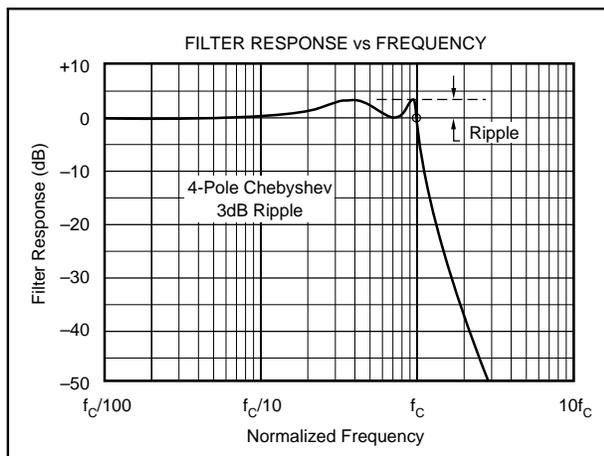
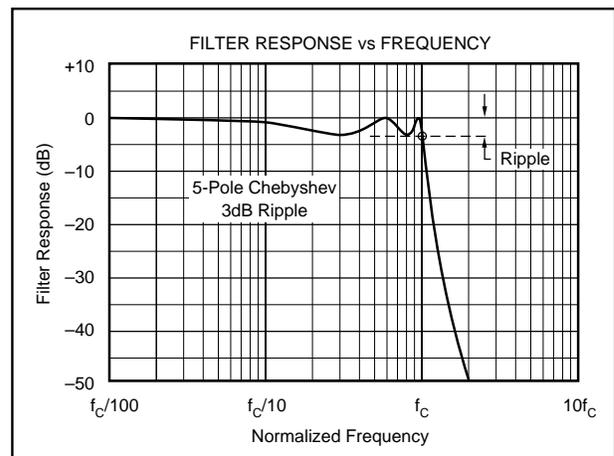

FIGURE 1A. Response vs Frequency of Even-Order (4-pole),  $3\text{dB}$  Ripple Chebyshev Filter Showing Cutoff at  $0\text{dB}$ .
FIGURE 1B. Response vs Frequency of Odd-Order (5-pole),  $3\text{dB}$  Ripple Chebyshev Filter Showing Cutoff at  $-3\text{dB}$ .
**Chebyshev** (equal ripple magnitude). (Also transliterated Tschebychev, Tschebyscheff or Tchevysheff.) This filter type has steeper attenuation above the cutoff frequency than Butterworth. This advantage comes at the penalty of amplitude variation (ripple) in the pass-band. Unlike Butterworth and Bessel responses, which have  $3\text{dB}$  attenuation at the cutoff frequency, Chebyshev cutoff frequency is defined as the frequency at which the response falls below the ripple band. For even-order filters, all ripple is above the  $0\text{dB}$ -gain DC response, so cutoff is at  $0\text{dB}$ —see Figure 1A. For odd-order filters, all ripple is below the  $0\text{dB}$ -gain DC response, so cutoff is at  $-(\text{ripple})\text{dB}$ —see Figure 1B. For a given number of poles, a steeper cutoff can be achieved by allowing more pass-band ripple. The Chebyshev has even more ringing in its pulse response than the Butterworth.